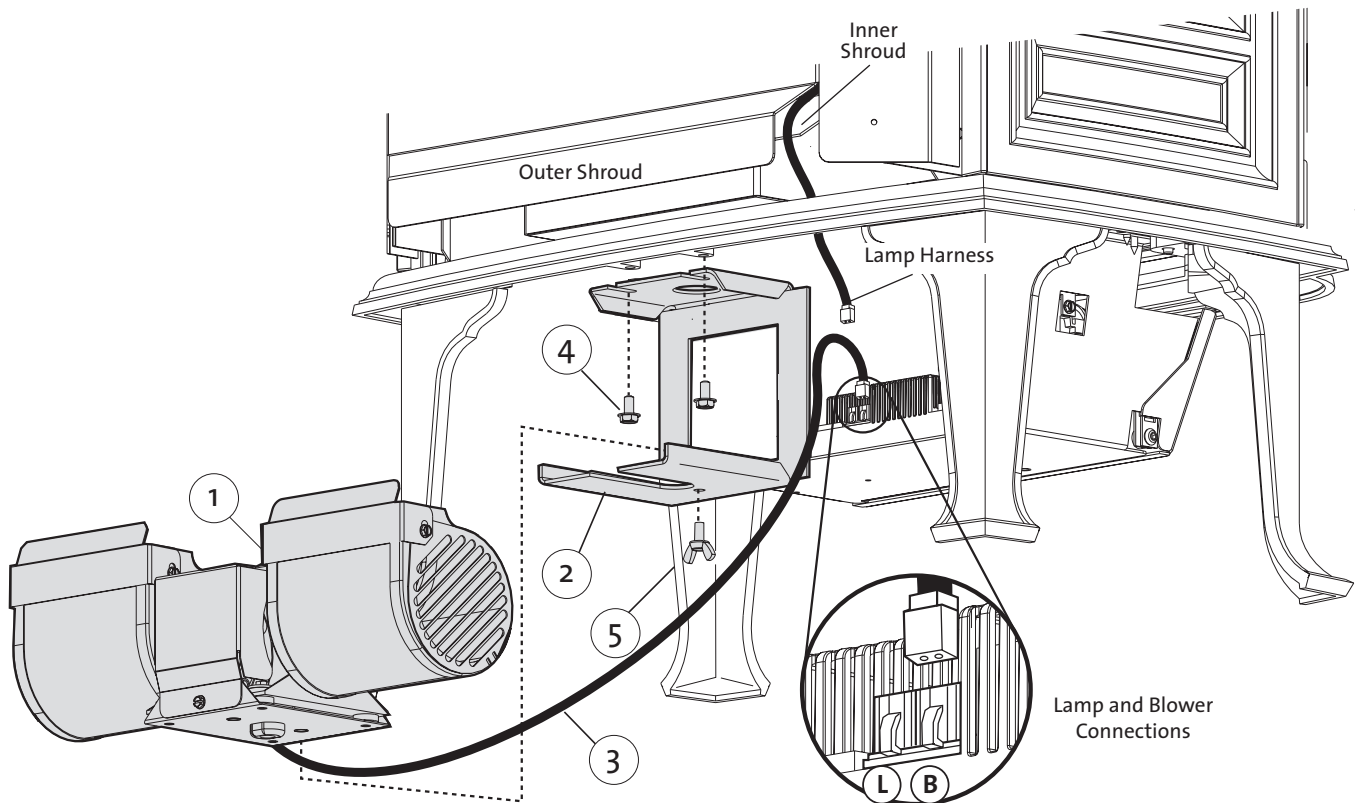

Figure 4. 157470 Blower Kit Components used for GF 300 DV IPI Allagash.
2. Orient the Blower Bracket (fig. 4, #2) as shown and securely attach it to the stove using the two M6 flange head hex bolts (#4).